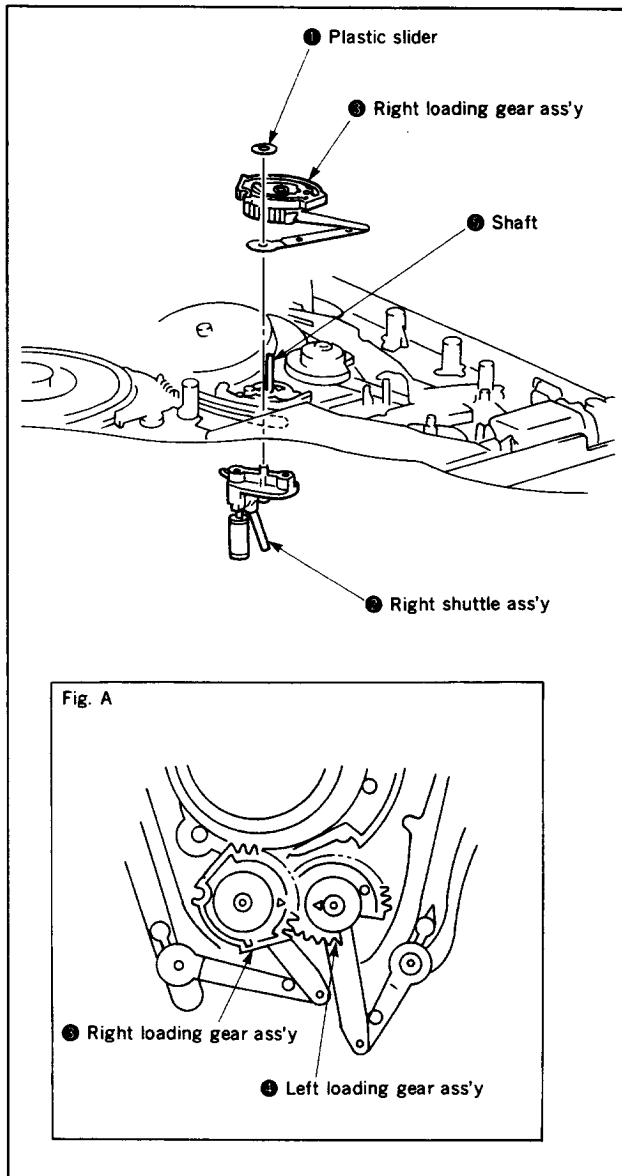

Fig. 3-40.
**3-34. RIGHT SHUTTLE, RIGHT LOADING GEAR ASS'Y'S (Fig. 3-40)**
- 2) Remove the plastic slider ❶, then pull out the right shuttle ass'y ❷.
- 3) Pull out the right loading gear ass'y ❸.
- Match up the ▲ mark on the right loading gear ass'y ❸ with the ▲ mark on the left loading gear ass'y ❹ as shown in Fig. A below.
- Apply 1/2 drop of lubricant to the shaft ❺.
- Do not hold on to the arm when pressing on the right loading gear ❸.
- Clean the section of the right shuttle ass'y ❷ where the tape is attached.